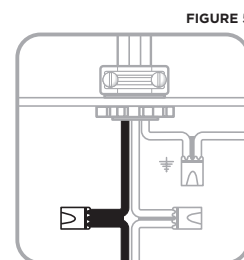

FIGURE 5
- Connect the hot (black) AC supply wire to the hot (black) wire of the fixture. Secure the connection with the wire nuts provided (see Figure 5). Pull wires to check for tightness.
- Connect the neutral (white) AC supply wire to the neutral (white) wire of the fixture. Secure the connection with the wire quick connects provided (see Figure 5). Pull wires to check for tightness.
- Connect the ground (green or bare copper) AC supply wire to the green or bare copper ground (green or bare copper) wire of the fixture. Secure the connection with the wire quick connects provided (see Figure 5). Pull wires to check for tightness. If your electrical system contains no grounding wire, you should consult a qualified electrician before proceeding with the installation.